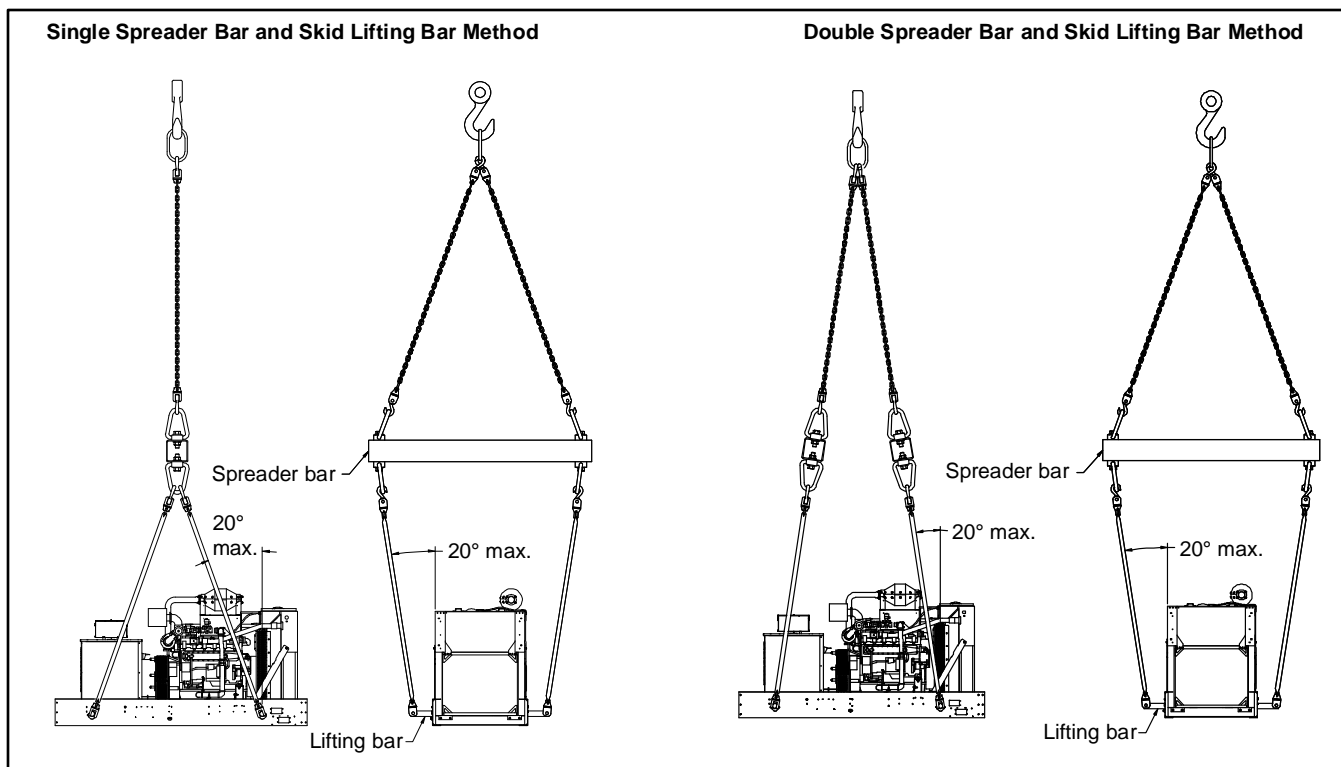

Figure 5 Single and Double Spreader Bar and Skid Lifting Bar Method
- See Figure 5 for the spreader bar and skid lifting bar methods.